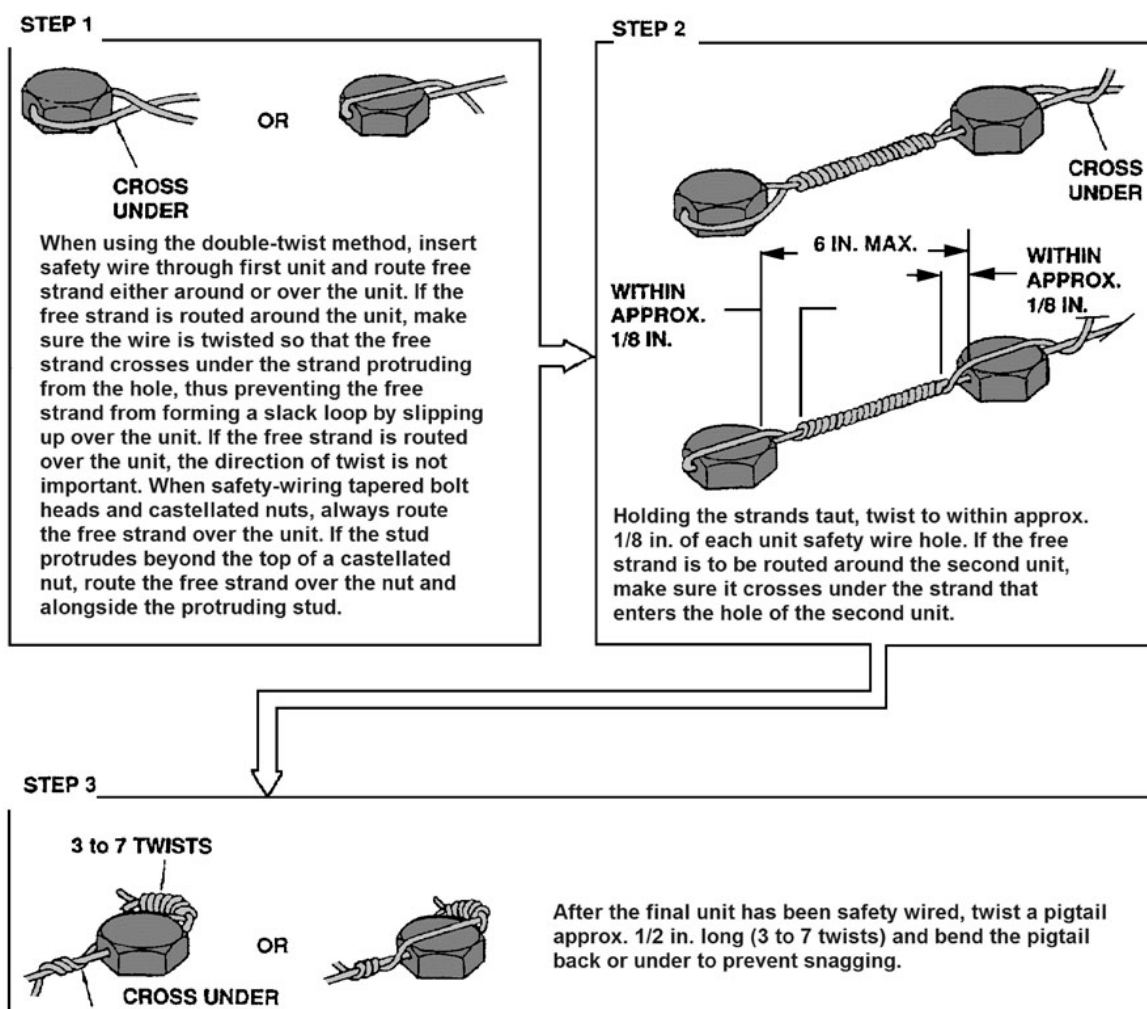
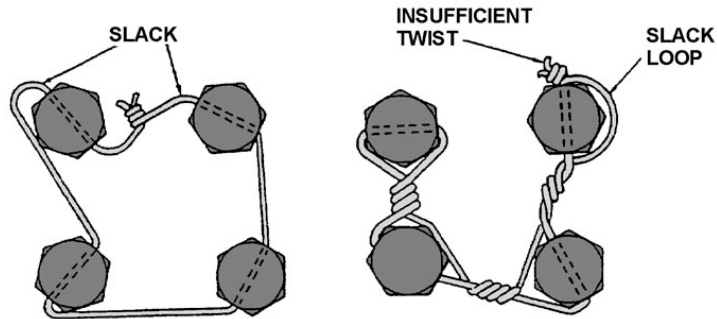

Figure 3-7. How to install safety wire.
Figure 3-8. Incorrect safety wiring.
5. Figure 3-7 shows the correct method of safety wiring in the double twist method. Figure 3-8 shows some common mistakes with both double twist and single wire, which we discuss next.